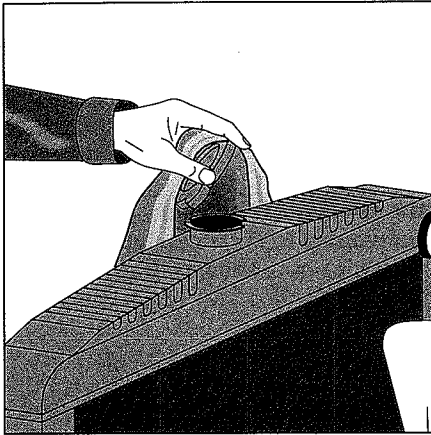

Figure 14-1:
To keep from burning your hand, place a cloth over the cap after you raise the lever (see Figure 14-1).
2. **Tilt the cap as you remove it so that the opening points *away* from you (and anyone else nearby) — again, see Figure 14-1.**